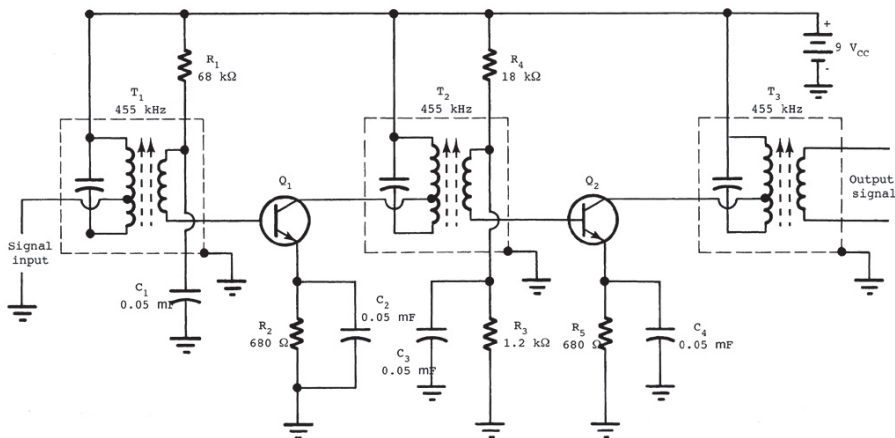

Figure 10.9 Two-stage transformer-coupled RF amplifier.
Figure 10.9 shows a **two-stage transformer-coupled radio frequency (RF) amplifier**. This particular circuit is used in an **amplitude-modulated (AM) radio receiver**. Circuits of this type are generally built on a compact **printed circuit boards (PCBs)**. The operational frequency of this amplifier is in the kHz to MHz range.